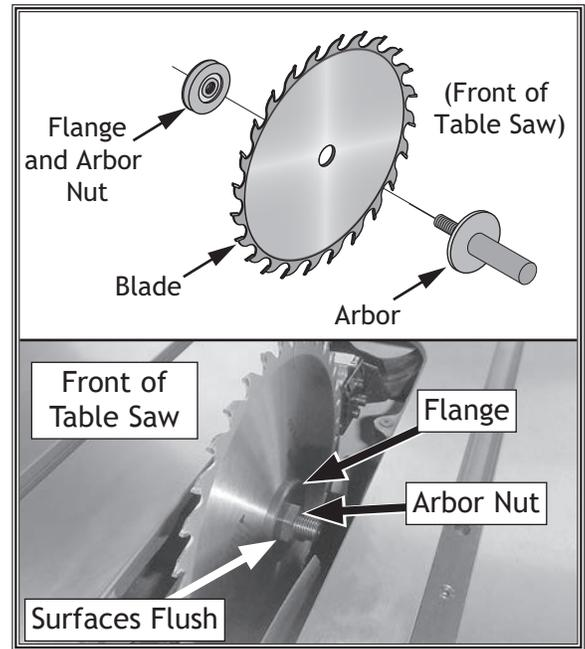
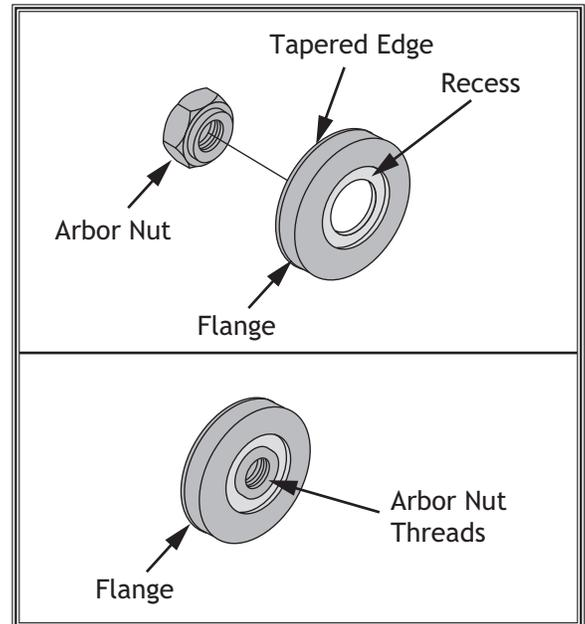

Figure 46. Blade order of installation and teeth facing correct direction.
Figure 47. Flange and arbor nut joined.
5. Install new blade, flange, and arbor nut on arbor (see **Figure 46**), with upper teeth facing front of saw. Ensure the tapered edge of the flange faces the arbor nut and the recess faces away from the arbor nut (see **Figure 47**). The arbor nut should be flush with the outer surface of the flange.